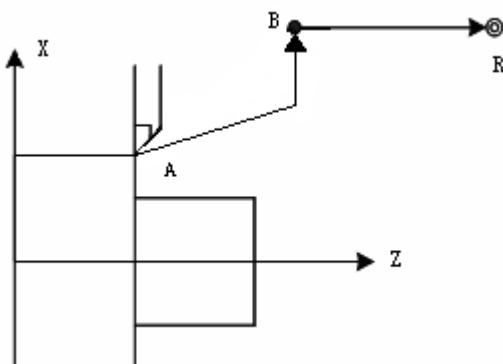

Fig.2-19
**Code execution process:** (as Fig. 2-19):
- (1) Rapidly position from the current position to the middle point of the code axis(A→B);
- (2) Rapidly position from the middle point to the reference position (B→R);
**Code execution process (as Fig.2-19):**
- (1) Rapidly position from the current position to the middle position of the code axis(A→B);